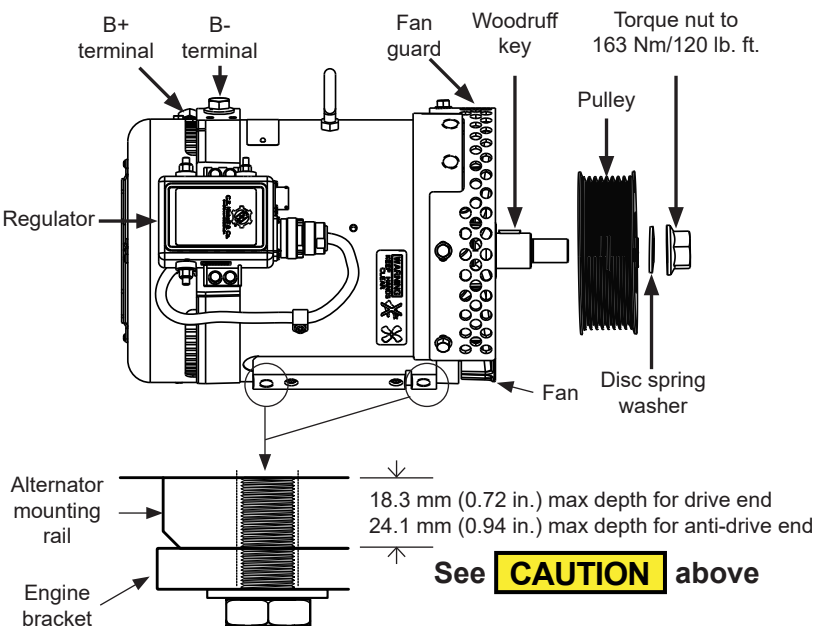

Figure 1: C850/C850D Alternator
2. Install pulley and furnished disc spring washer with beveled side facing pulley. Torque pulley nut to 163 Nm/120 lb. ft. See Figure 1.
**CAUTION** Minimum recommended thread engagement is 12.7 mm (0.5") into alternator drive end mounting holes and 16.5 mm (0.65") into anti-drive end mounting holes. Maximum mounting screw depth into alternator regardless of washer and bracket stackup is 18.3 mm (0.72 in.) into drive end mounting holes and 24.1 mm (0.94 in.) into anti-drive end mounting holes. See Figure 1 inset. EXCEEDING MAXIMUM DEPTH WILL RESULT IN IMMEDIATE ALTERNATOR FAILURE.